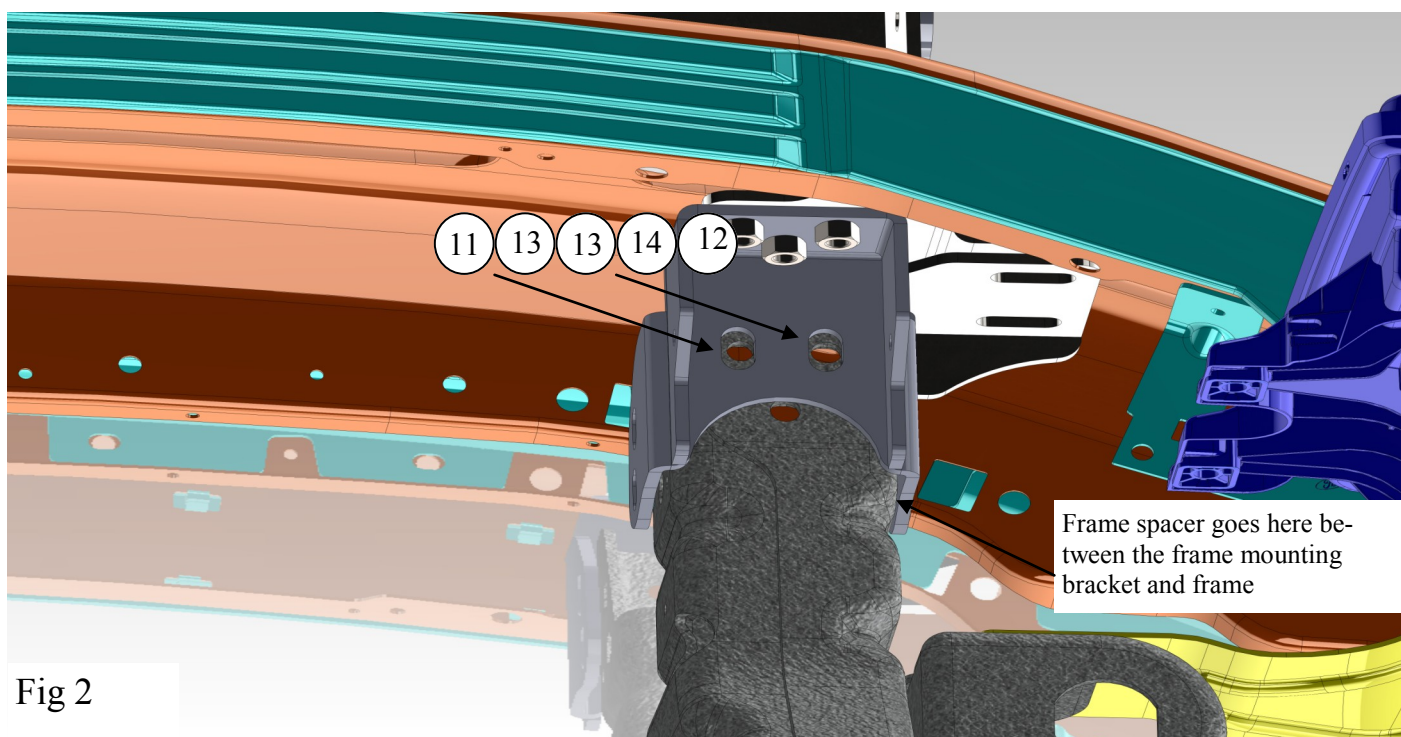

Fig 2
3. Locate the drivers side frame mounting bracket and (2) frame spacers, place the frame spacers to the outsides of the frame, then slide the drivers side frame mounting bracket over the frame spacers align the mounting holes and attach to the frame using (2) M12 X 50MM hex head bolts, (4) M12 flat washers, (2) M12 lock washers, and (2) M12 hex nuts (FIG 1). Locate the two holes located on the top of the drivers side frame mounting bracket and attach using (2) M12 X 40MM hex head bolts, (4) M12 flat washers, (2) M12 lock washers, and (2) M12 hex nuts (FIG 2). Repeat this step for the passenger side